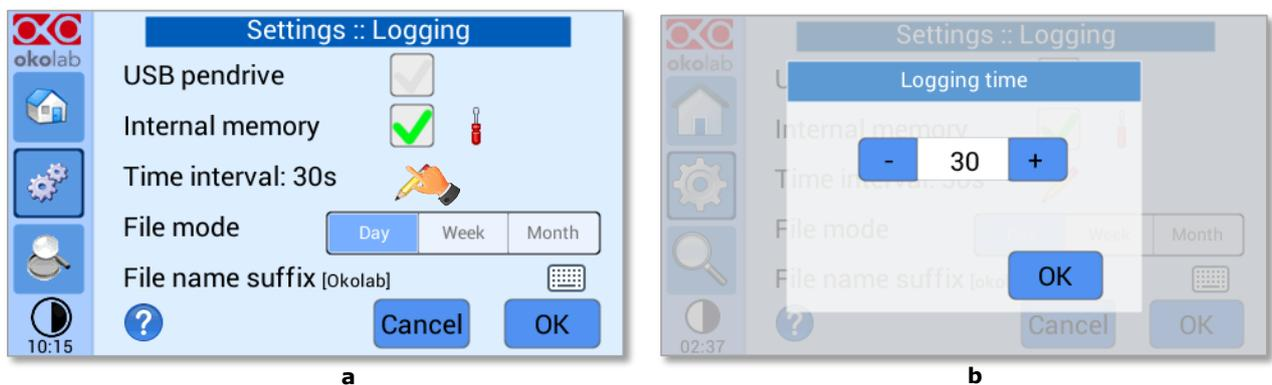
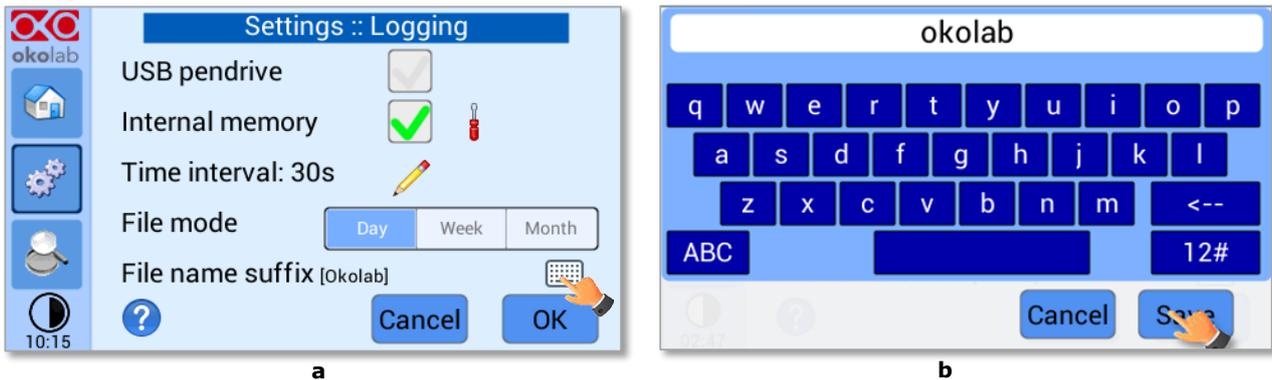
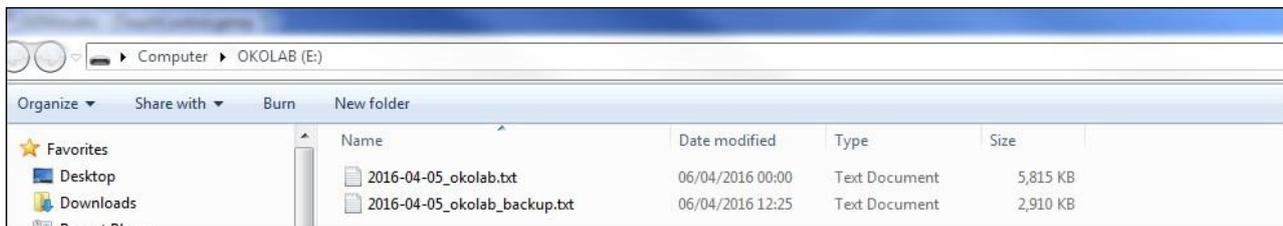

Figure 46. How to set the logging time (a – b)
Figure 47. Data Logging. How to define the suffix for the downloaded files (a – b)
Figure 48. Downloaded files on the pen drive
3. Press on the icon  (see Figure 46 a) to insert the *Time Interval* i.e. the frequency with which you want to record a data point, as shown in Figure 46 b. In this example a data point is logged every 30 seconds, you can change *Time Interval* in the range 1-60 seconds.
4. Choose how you want to organize the data when downloaded, by pressing on Day, Week or Month, see Figure 46 (a).
5. Write the file name suffix to be reported in the downloaded files by pressing on the keyboard icon , see Figure 47 a.
6. Then press *Save*, see Figure 47 b.
Tip ► With the selections as in Figure 46 and in Figure 47, the data will be downloaded on the USB drive as shown in Figure 48.